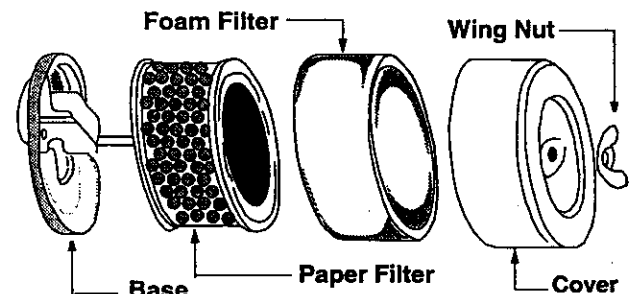

Figure 14
- Clean pre-cleaner as follows: (See Figure 14.)